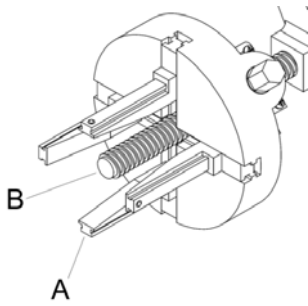

fig.4
- Keep the tool clean with particular attention to the clamps **A** and to trapezoidal screw **B** (fig. 4). For the cleaning use gasoline or diesel fuel, using impermeable gloves and a safety mask, and proceed as follows: